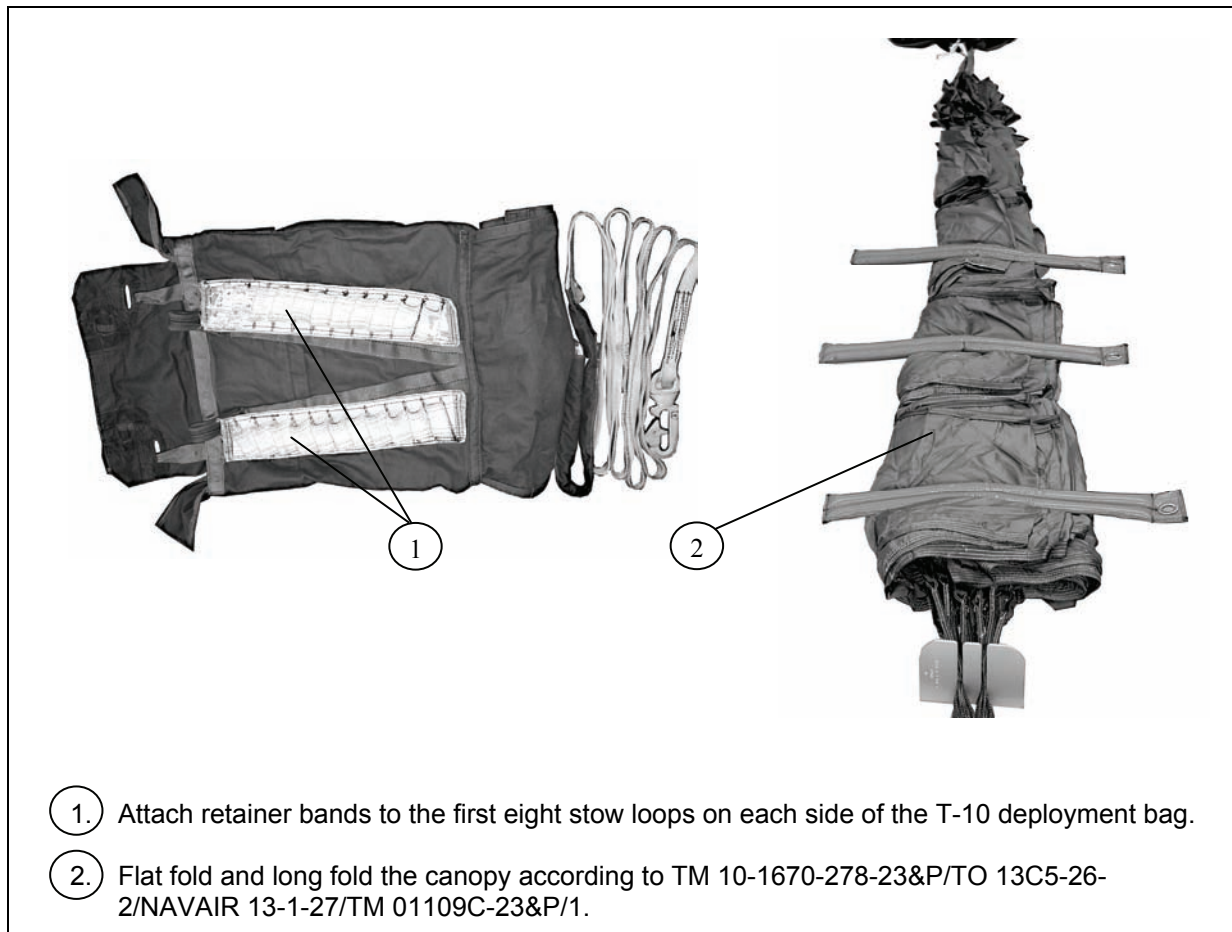

Figure 2-22. 15-Foot Extraction Parachute Stowed
- **Packing the 15-foot extraction parachute.** Use the following items to pack the 15-foot cargo extraction parachute in a T-10 deployment bag for use with this load as shown in Figures 2-22 through 2-26: